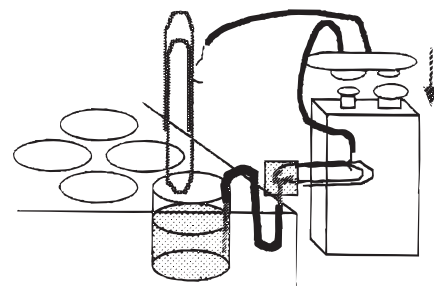

Figure 5.
1. Use a pipet to fill the corner well of a 24-well plate approximately 3/4 full with 0.5 M copper(II) sulfate solution.
4. Place the free end of the copper wire assembly into the 0.5 M copper(II) sulfate solution (see Figure 5).